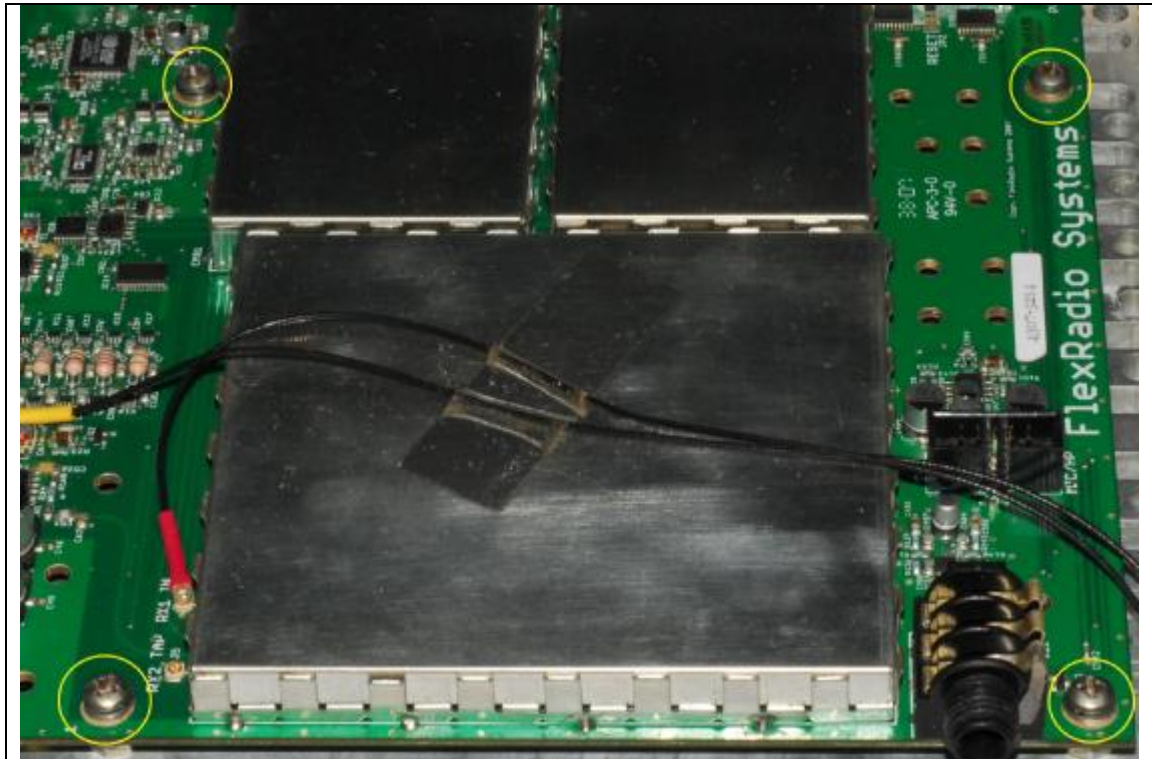

Figure 13
- a. Using a #2 Phillips screw driver, remove the (4) screws and washers, indicated by yellow circles in Figure 13.